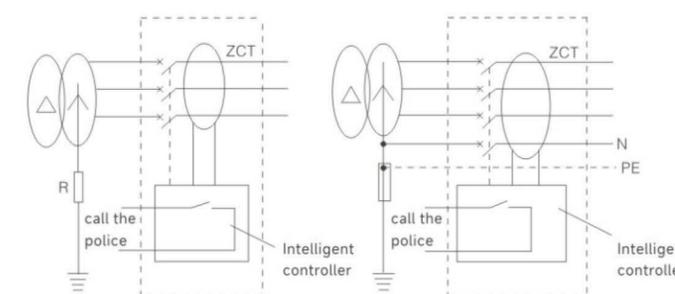
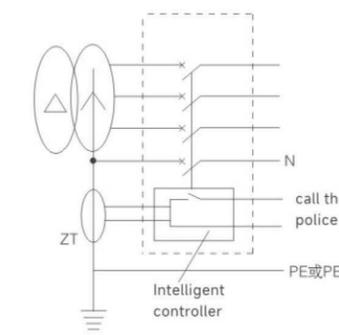

Figure 7 Electrical load circuit type
Figure 8 Grounding Line of Leakage Transformer
Leakage protection mainly takes signals through zero sequence transformers, which have high flexibility and are suitable for grounding protection of several ampere high resistance grounding systems, as well as direct grounding systems. Generally, only an alarm is given without tripping, and the circuit breaker can also be disconnected when needed. The connection method is shown in Figure 7 and Figure 8. In addition, there are two types of load circuit (ZCT) or transformer grounding wire (ZT).